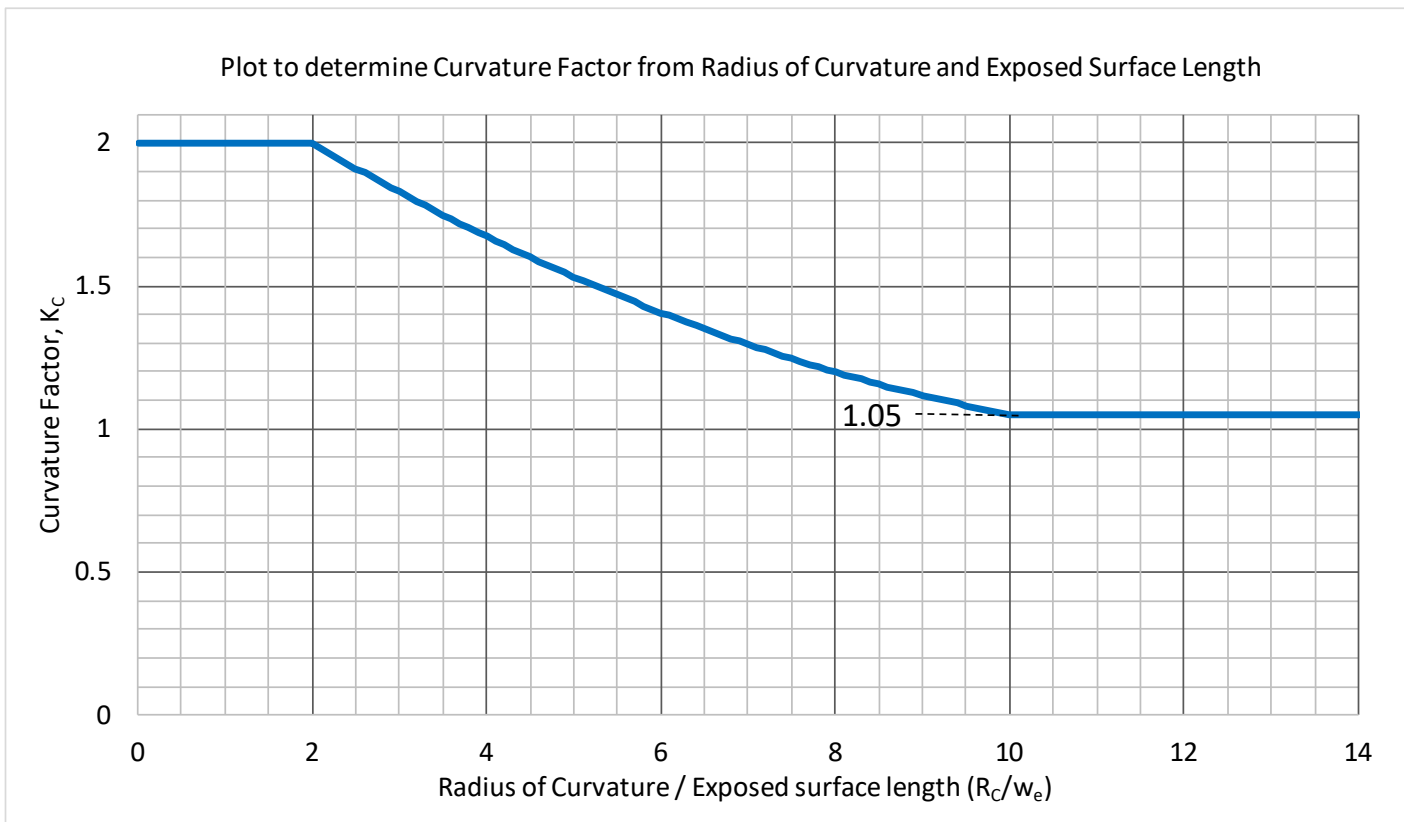

Figure 11.3. Graph to determine the curvature factor of a channel
4. Using Figure 11.3. below, read the K_c value that corresponds to the R_c by w_e value.